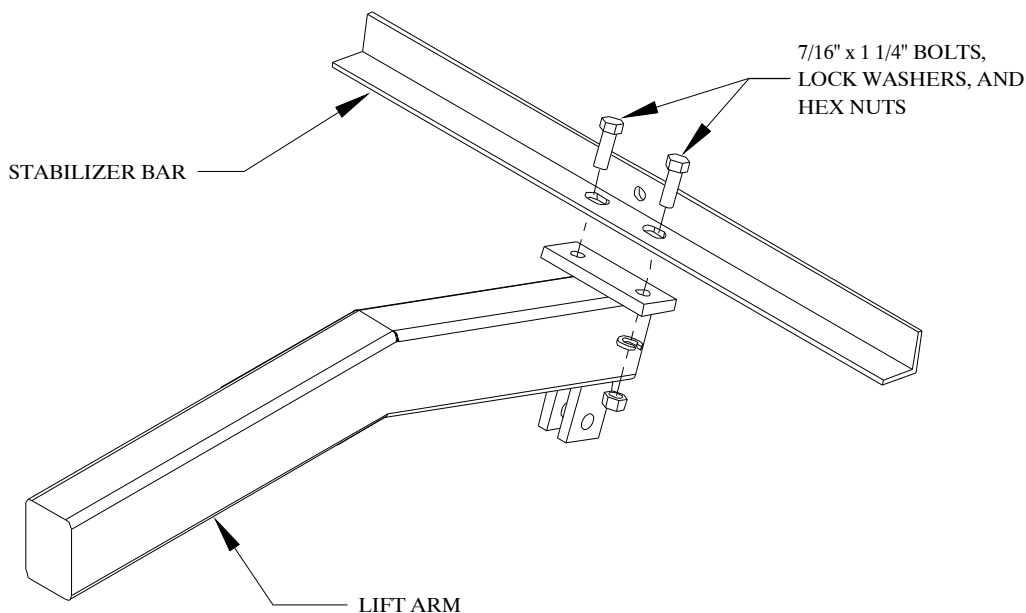

Figure 14
7. Refer to the layout diagrams in appendix C for the locations of the different lengths of stabilizer angles. Bolt the stabilizer angles to the bolt plates near the rear end of the lift arms. Refer to Figure 14. Use 7/16" x 1 1/4" bolts, lock washers, and hex nuts.